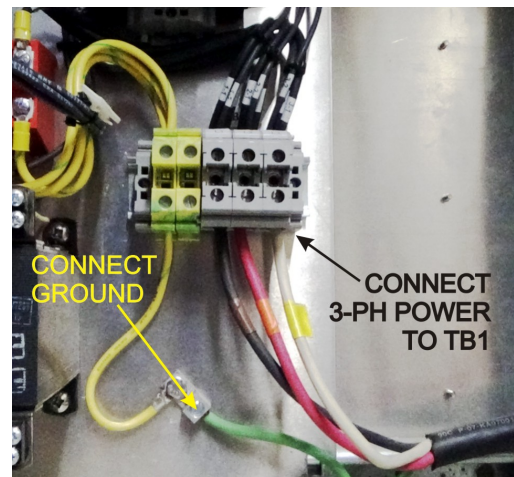

Figure 2-15 Facility Power connects to TB1 and Ground
4. Connect facility Ground to provided lug (Figure 2-15).